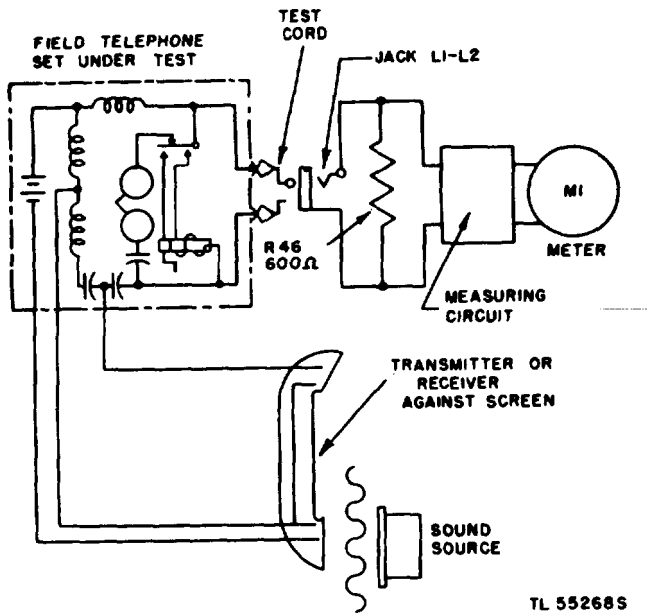

Figure 21. Schematic diagram of test circuit for local battery telephones.
a. LOCAL BATTERY AND SOUND POWERED TELEPHONES (fig. 21). A 600-ohm resistance load is provided in the test set as an equivalent line load for the telephones under test. This circuit approximately matches the impedance of Telephone EE-8-().